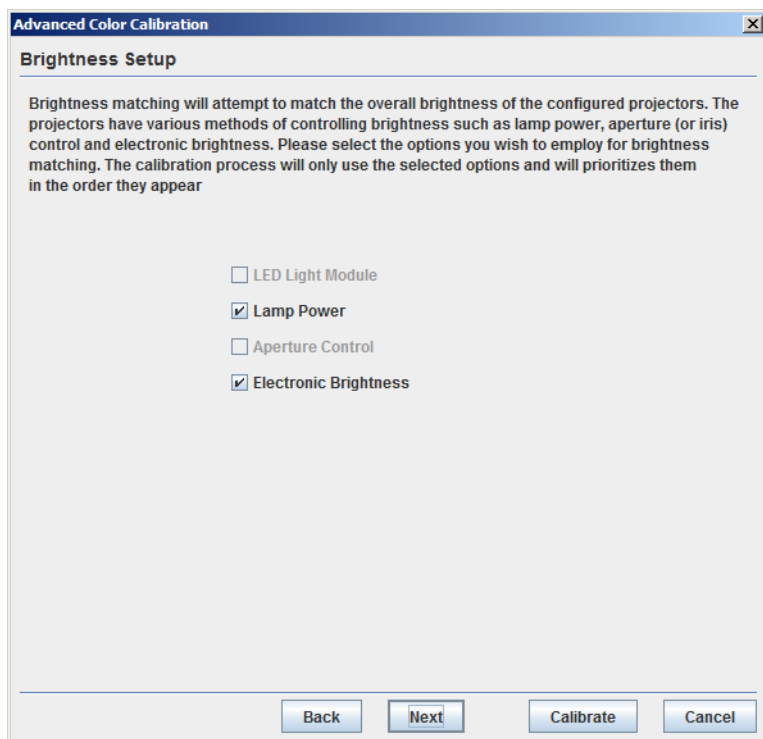

Figure 4-33 Advanced Color Calibration - Brightness Setup
6. Specify which projectors to calibrate and which to skip by using the double-arrow buttons to move the projectors into the desired column. When you are finished, click **OK**. If you chose to calibrate brightness, the Brightness Setup window appears (**Figure 4-33**).